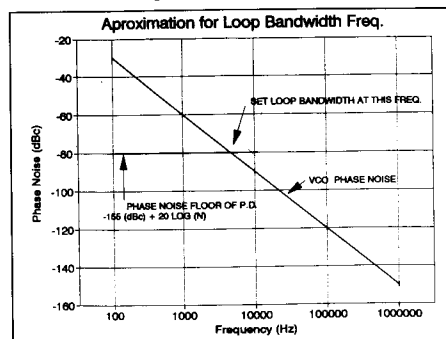

Figure 1. Method for selecting loop bandwidth.
and GaAs. CMOS has the lowest noise floor of the three. For optimum phase noise performance, the loop bandwidth would be chosen where the noise floor from equation (1) intersects the phase noise of the VCO. This simplified analysis is shown in Figure 1. As a quick evaluation of where to place the loop bandwidth, this procedure is quite valid. However this method excludes the true loop behavior or closed loop response and error loop response since they modify the VCO phase noise and the phase detector noise floor.